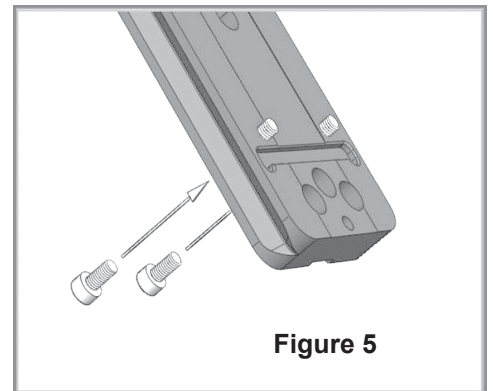
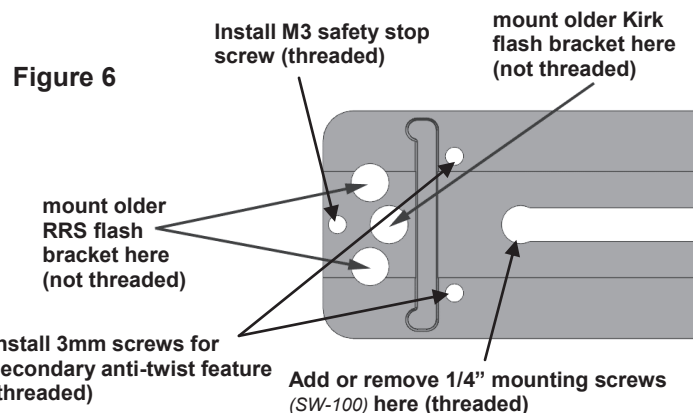

Figure 5
Figure 6
1. Determine the number of screws you need. If your lens foot has more than one mounting hole, it is recommended that more than one hole be used to mount the plate to keep the plate from twisting on the foot. For a lens foot with one mounting hole, see the anti-twist plate feature in Fig. 5 on p. 2.
2. Use the threaded end of the center slot to remove or add screws as needed (Fig. 6 on p. 2). This plate comes with three mounting screws. If your lens foot requires more fasteners than we have included, you can obtain extra screws from us, part SW-100.
If your lens foot has only one mounting hole: the two extra M3 stop screws included with your plate can be used to prevent the plate from twisting on the lens foot. Thread the small screws into the two counter-bored holes in the plate so that the screw ends protrude from the top of the plate (the side you attach to your lens foot). When installed in this fashion (Fig. 5), they provide a set of anti-twist nubs that can be seated flush against the front or back of your lens foot to prevent rotation. This is especially useful when mounting your lens on the Sidekick or other side-mount style tripod head. Alternatively, two narrow strips of 3M Grip tape may be applied length-wise to the plate surface that contacts the lens foot. Contact us if you'd like to use this tape.
Wimberley lens plates have a double dovetail cross-section (dovetails are milled in the upper and lower halves) so that you have the option of mounting a Wimberley Modular Flash Bracket to the top or bottom of the plate. This is particularly handy for situations where the quick-release clamp covers a large part of the plate, making it difficult to attach the bracket to the bottom of the plate. Wimberley plates are also made to accommodate older Really Right Stuff and Kirk screw-mount flash brackets (Fig. 6). *NOTE: When using these Kirk Flash brackets, you must install the two extra stop screws in the counter-bored holes (Fig. 5) in order to keep the bracket from twisting.*